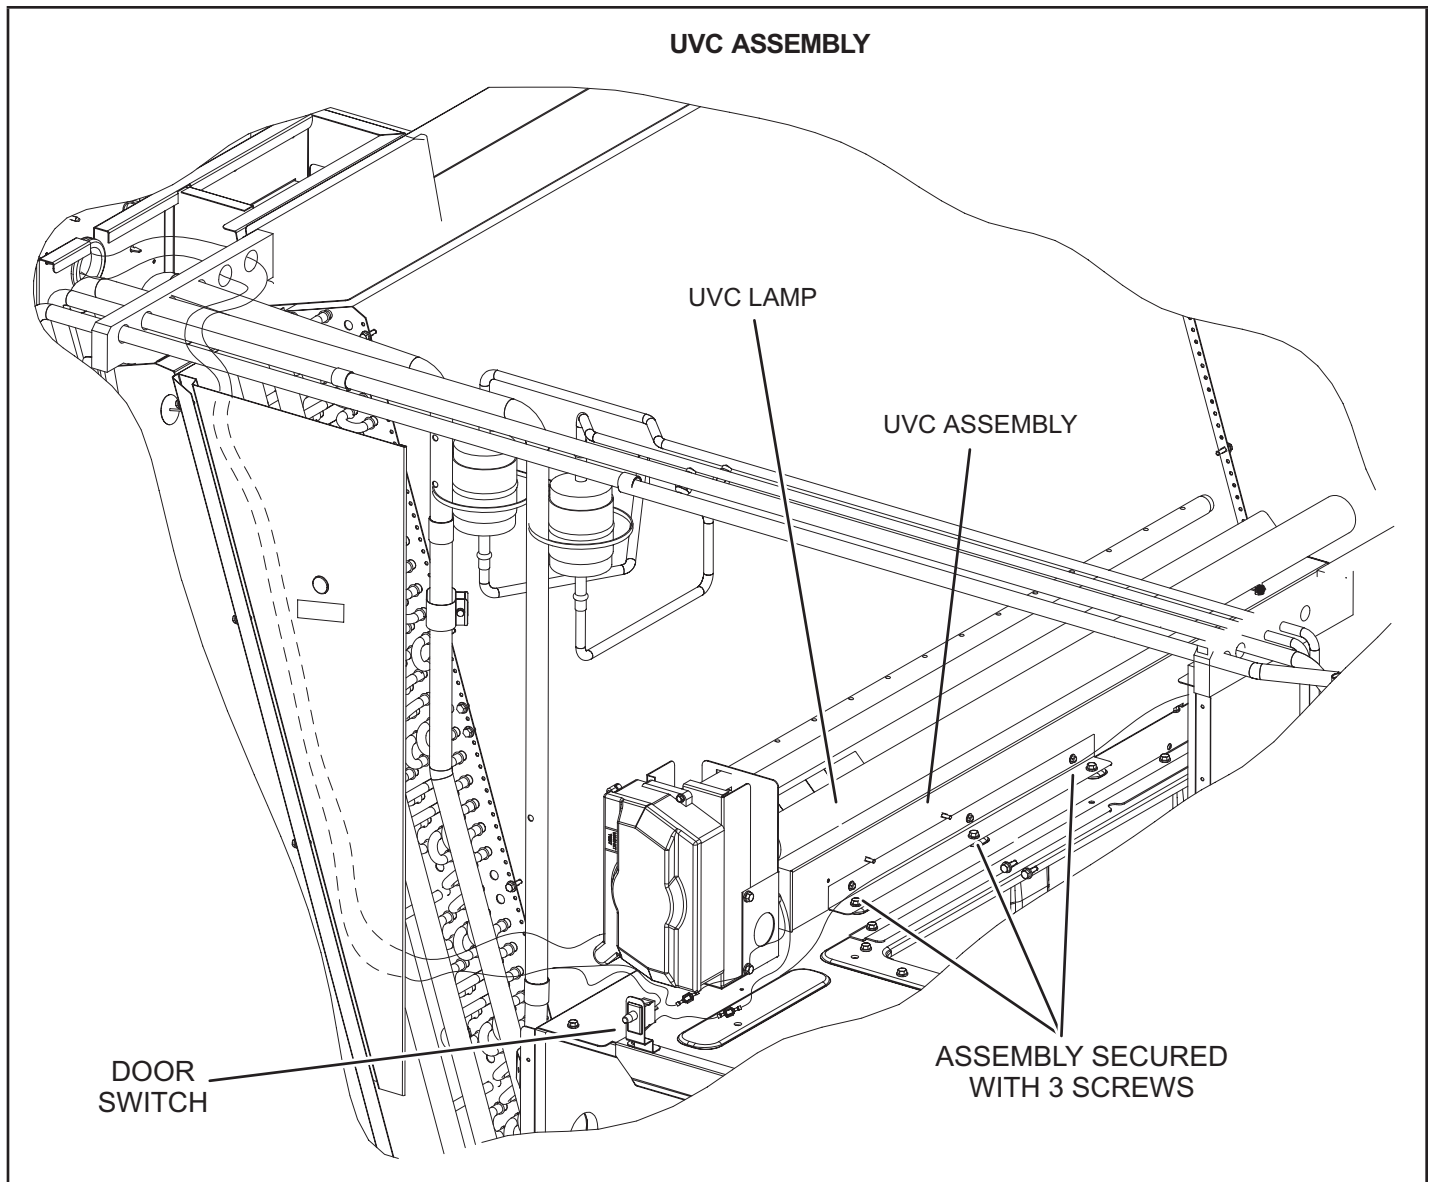

FIGURE 43
When the UVC light is factory installed, the lamp is shipped in a foam sleeve. The lamp is attached to the UVC light assembly on the blower deck. See FIGURE 43. Remove the lamp and install into the UVC light assembly as shown in steps 2 through 11.
- 5 - Remove and retain the (3) screws securing the UVC assembly. Carefully slide the complete UVC assembly out through the blower access door. See FIGURE 43.
- 8 - Carefully place the UVC assembly on the blower deck. Line up the mounting holes on the UVC assembly with the mounting holes on the blower deck. See FIGURE 43. Use the retained screws provided to attach the UVC assembly in place.